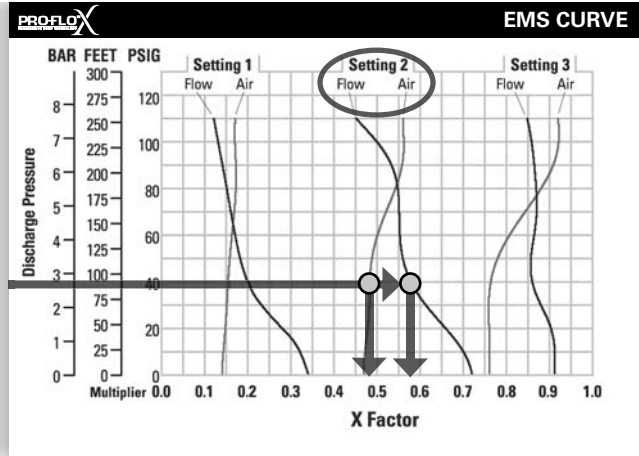

Figure 2
**FIGURE 2** When the pressurized diaphragm, diaphragm A, reaches the limit of its discharge stroke, the air valve redirects pressurized air to the back side of diaphragm B. The pressurized air forces diaphragm B away from the center while pulling diaphragm A to the center. Diaphragm B is now on its discharge stroke. Diaphragm B forces the inlet valve ball onto its seat due to the hydraulic forces developed in the liquid chamber and manifold of the pump. These same hydraulic forces lift the discharge valve ball off its seat, forcing fluid to flow through the pump discharge. The movement of diaphragm A toward the center of the pump creates a vacuum within liquid chamber A. Atmospheric pressure forces fluid into the inlet manifold of the pump. The inlet valve ball is forced off its seat allowing the fluid being pumped to fill the liquid chamber.
**Step 2: Determining flow and air X Factors.** Locate your discharge pressure (40 psig) on the vertical axis of the EMS curve (Figure 2). Follow along the 2.8 bar (40 psig) horizontal line until intersecting both flow and air curves for your desired EMS setting (in this case, setting 2). Mark the points where the EMS curves intersect the horizontal discharge pressure line. After locating your EMS points on the EMS